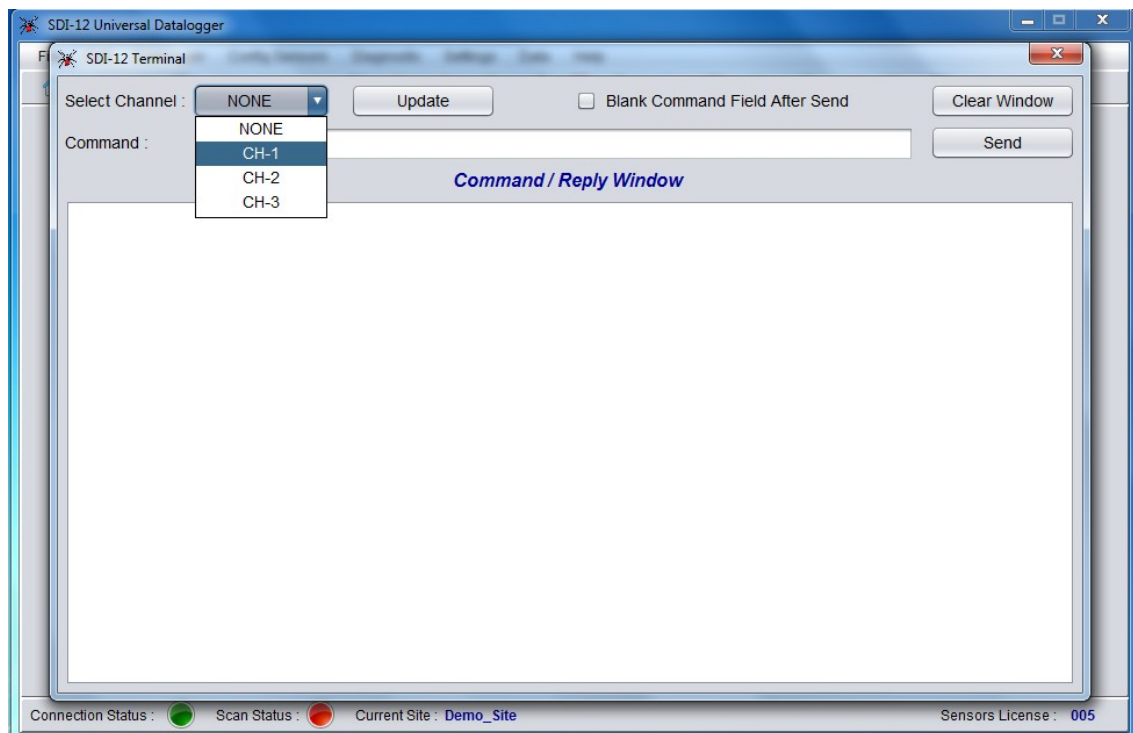

Figure 25 SDI-12 Terminal Window
- In "SDI-12 Terminal" window (figure 25), select appropriate Channel number from the drop down list and then click "Update".